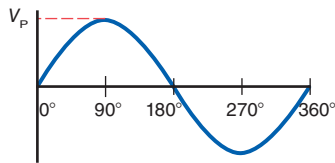

Figure 14-31
- 14.9 If the sine wave in Fig. 14-31 has a peak value of 15 V, then calculate
- 14.10** If the sine wave in Fig. 14-31 has an rms value of 40 V, then calculate